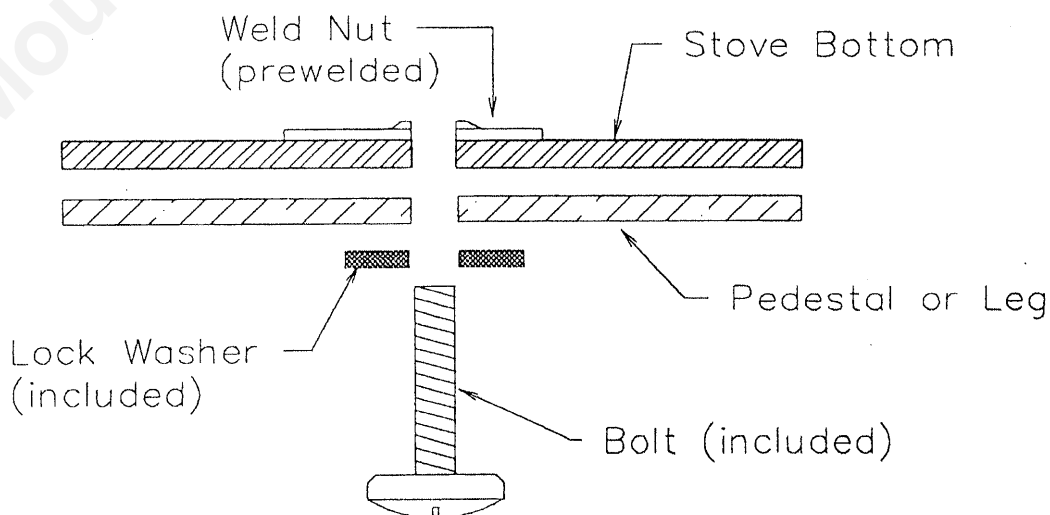

FIGURE 2: J1000B BOTTOM
3. Attach the legs to the stove bottom using the method shown in Figure 2. Note: For the front legs, the decorative side of the legs (polished side on gold plated legs) should be facing the front of the unit. For the rear legs, the decorative side of the legs should be facing the rear of the unit.